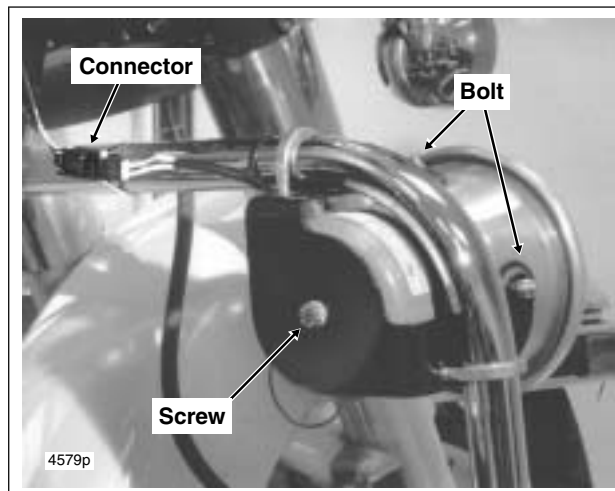

Figure 8-21. Speaker (Rear View)
1. Cut two cable straps to release 2-place Deutsch connector and cable from top rail of right side engine guard. Disconnect pin and socket halves. See Figure 8-21.
2. Loosely install bolt to fasten mounting bracket to back of speaker. See Figure 8-21.